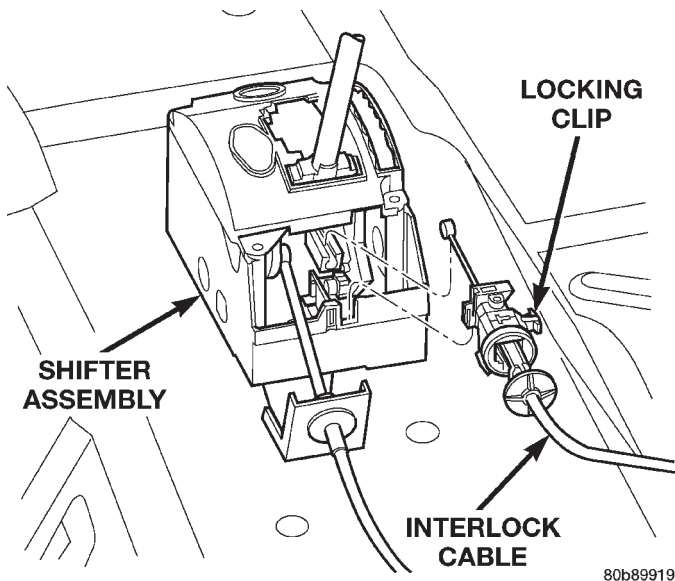

Fig. 18 Shifter/Ignition Interlock Cable
- (1) Disconnect and isolate, the battery negative (-) cable at the left side strut tower.
- (2) Remove the gearshift knob set screw and knob.
- (3) Remove console assembly. Refer to Group 23, Body.
- (4) Remove the interlock cable from the shifter housing. Slide the cable out of the groove in the interlock lever (Fig. 18).
- (4) Install interlock cable into routing clip located along cable housing.
- (5) Route interlock cable to the console.
- (6) Snap the shifter/ignition interlock cable end fitting into the groove in the gearshift mechanism (Fig. 18).
- (7) Adjust the Shifter/Ignition Interlock System. See Interlock System Adjustment, in this section of service manual.